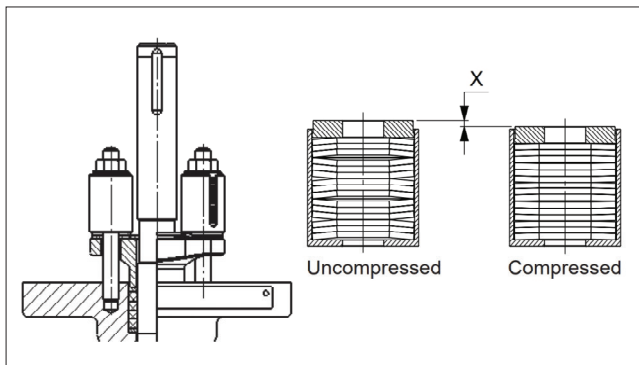

Fig. 10 High performance live-loading
- For the high performance live-loading option (Figure 10), pre compress the gland packing by X length until the top cap reach the shell holder (housing) to ensure proper force in use.